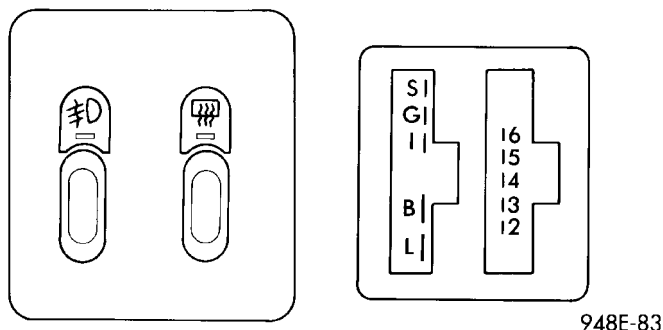

Fig. 27 Rear Window Defogger and Fog Lamp Switch
- (1) Remove the top cover and cluster bezel assembly. Refer to the Top Cover and Cluster Bezel Removal above.
- (2) Reach in and disengage the left bezel latch and remove assembly (Fig. 27).
- (3) Pull the bezel and switch(s) rearward from the opening and disconnect the wire connector(s).
- (4) Remove the switch from the bezel.